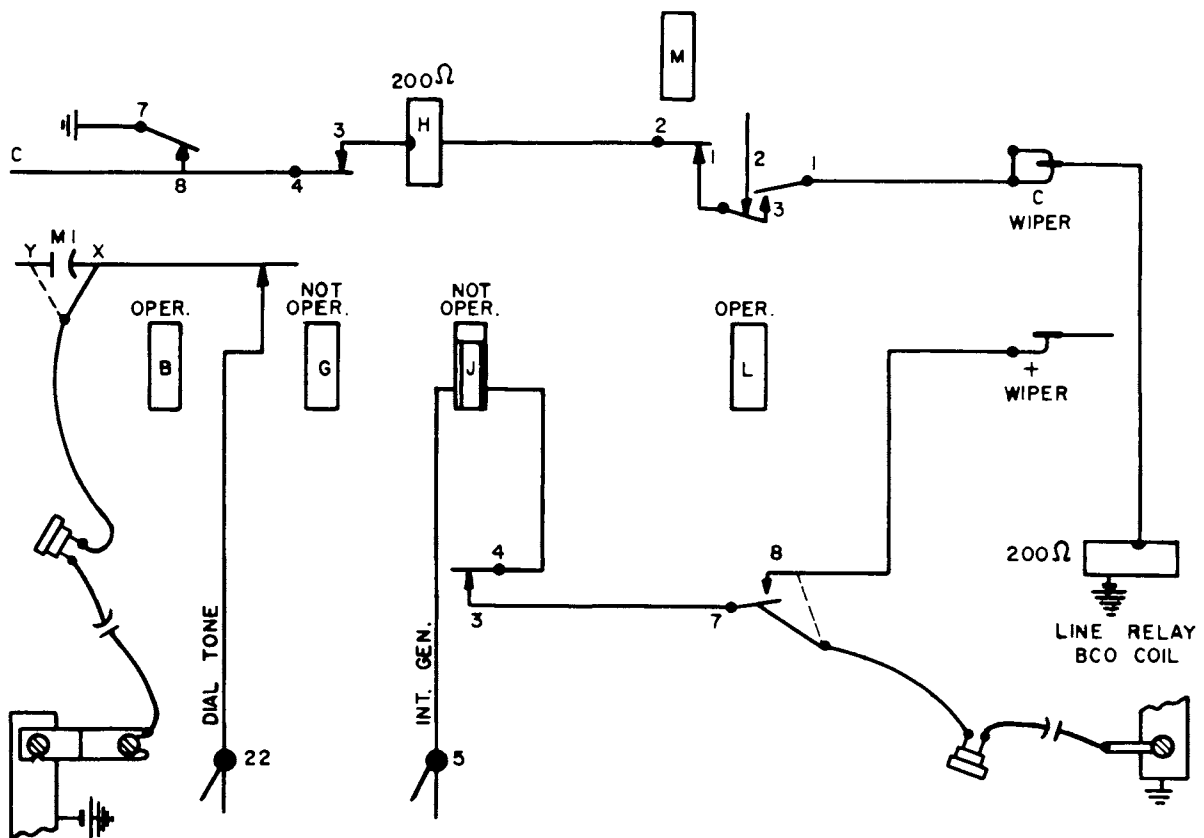

Figure 11. Locating an open a-c circuit.
- a. For an example of locating an open a-c circuit see figure 11. Assume an open circuit at relay L springs 7-8. Interrupted generator will be heard at relay L spring 7 but not at spring 8, indicating the open circuit. The capacitor prevents the operation of relay J. Also, the INT. GEN. is louder at switch jack 5 than at relay L spring 7, since it is supplied through the coil of relay J. The receiver is connected to (+) or (-) battery.
- b. For an example of locating an open P-A-X tone circuit see figure 11. Assume an open M1 capacitor. Tone at X will be the same as at switch jack 22. No tone at Y indicates an open M1 capacitor. The receiver is connected to (+) or (-) battery. When testing a capacitor, the tone at X is loud but with the pick at Y, the following conditions are possible.
(1) A reduction in volume, indicating a good capacitor.
(2) The same volume, indicating a shorted capacitor.
(3) No tone, indicating an open capacitor.